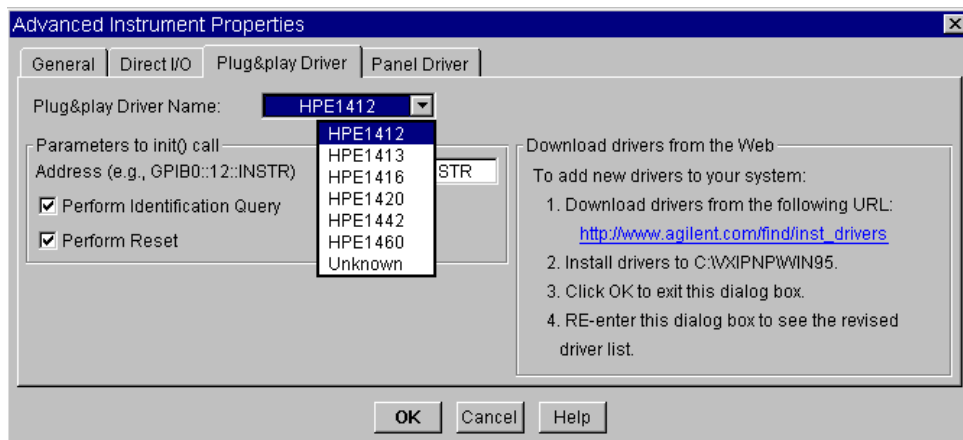

Figure 107 Selecting a *VXIplug&play* Driver
- 3 In the Advanced Instrument Properties dialog box, toggle Live Mode: to OFF and select the Plug&play Driver folder. Click the **Plug&play Driver Name:** field to display the drop-down menu which lists all the drivers installed on the computer. This example uses the hpe1412 driver, as shown in Figure 107.